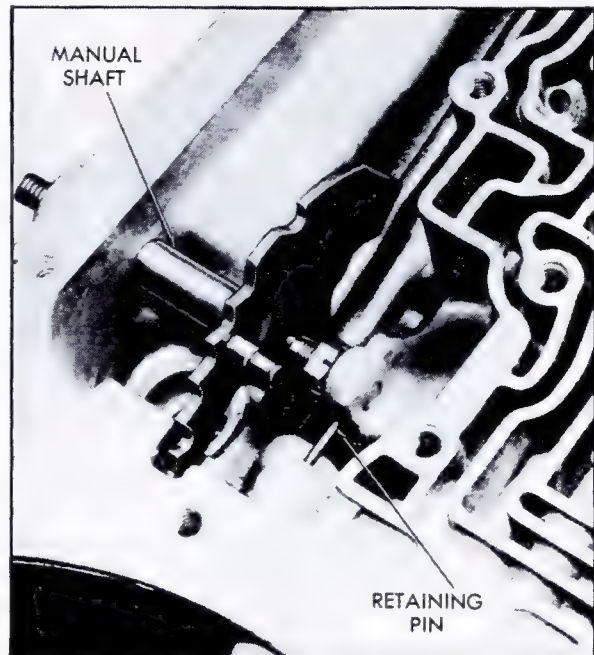

Fig. 7-115 Installing Manual Shaft Retaining Pin
5. Install six check balls into ball seat pockets in transmission case, Fig. 7-115.
7. Install retaining pin in case, indexing it with groove in manual shaft, Fig. 7-115.